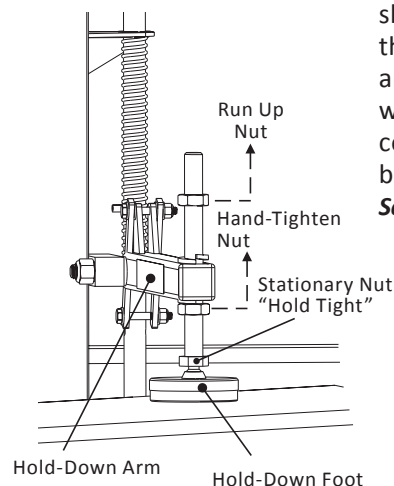

Figure 6-3
3. Raise both nuts on the hold-down foot and allow the foot to rest on top of the scooter's deck. While holding the stationary nut, run the bottom nut up to the hold-down arm and hand-tighten. Lift the hold-down arm up to eliminate slack and to ensure the arm is at its highest point. There should be pressure on the deck of the scooter and the bottom lock washer should be compressed from the bottom nut. *See Figure 6-3.*